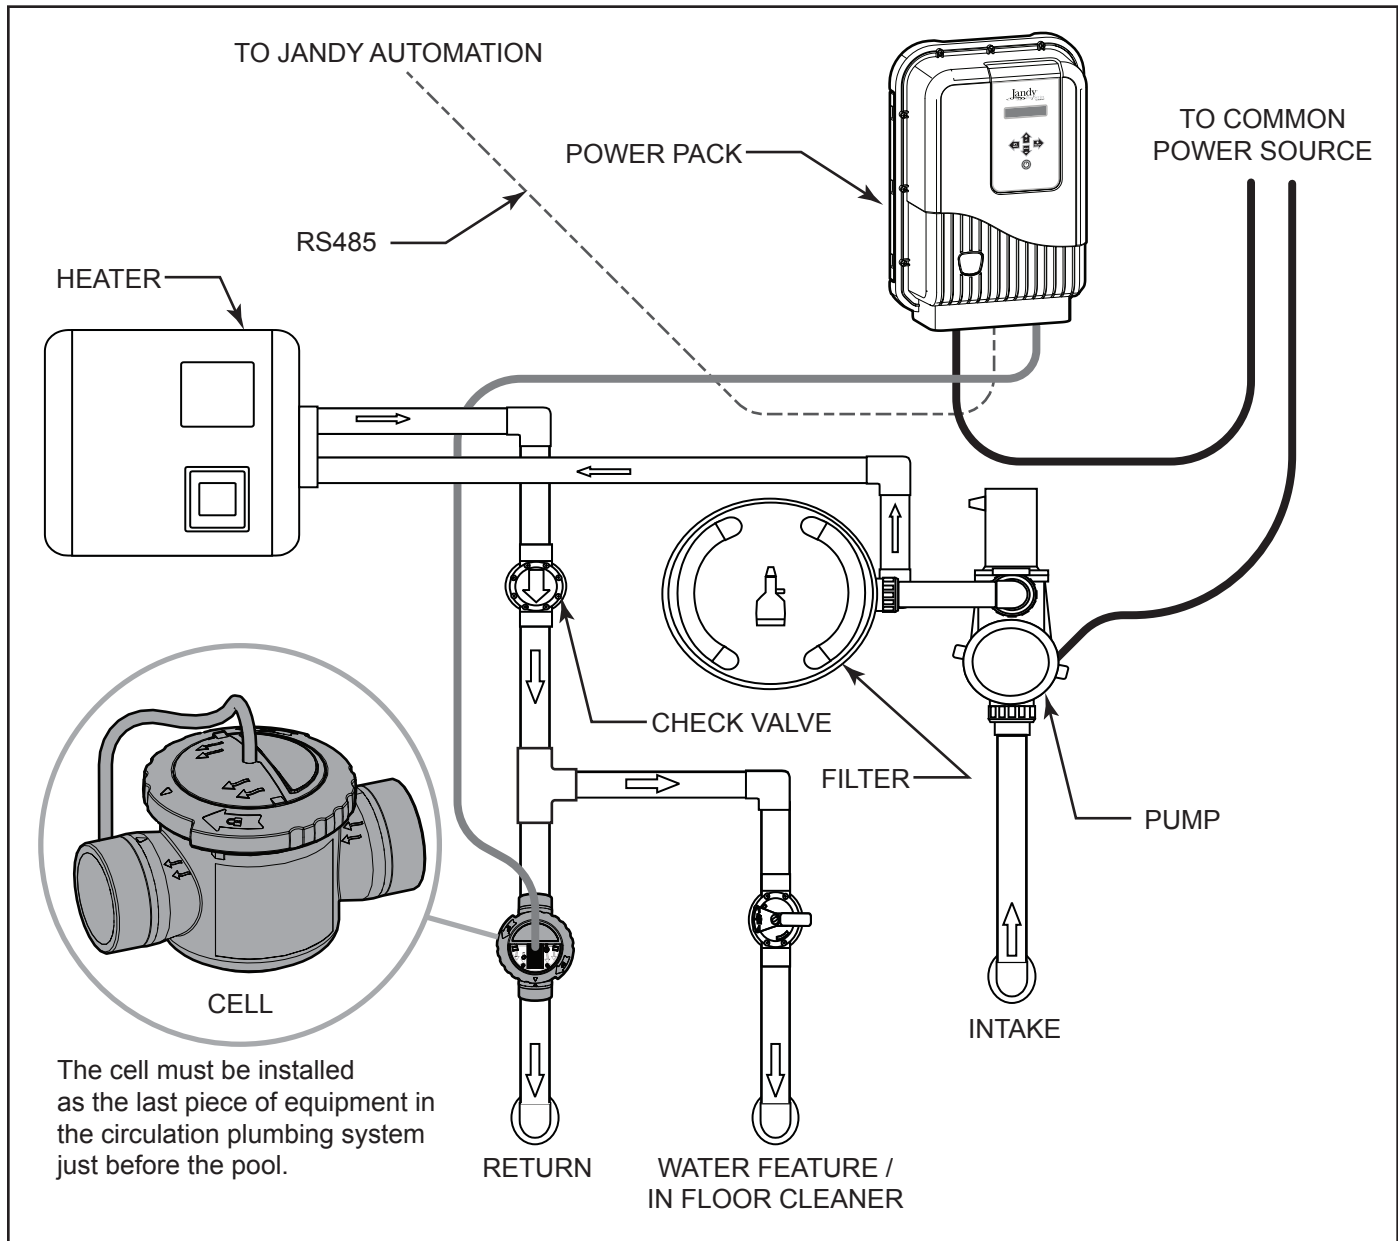

Figure 1. Example of Installation
**NOTE** The cell must be installed on a 16 Inch (40cm) horizontal length of pipe after the heaters, pumps, and filters, as the last piece of equipment in the circulation plumbing system before the pool inlet (see Figure 1).
**NOTE** The cell must be installed on a 16 Inch (40cm) horizontal length of pipe after the heaters, pumps, and filters, as the last piece of equipment in the circulation plumbing system just before the pool (see Figure 1).